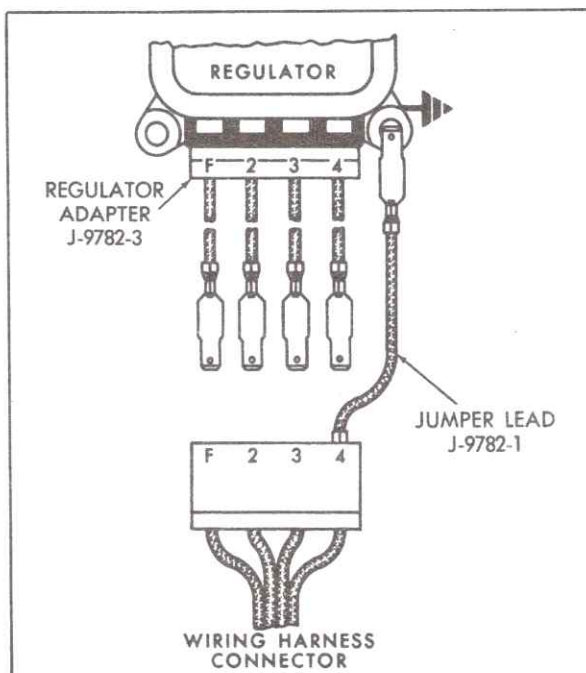

Fig. 6-32 Testing Indicator Lamp Circuit
2. Insert jumper lead, J-9782-1, into wiring harness and connect as shown in Fig. 6-32.